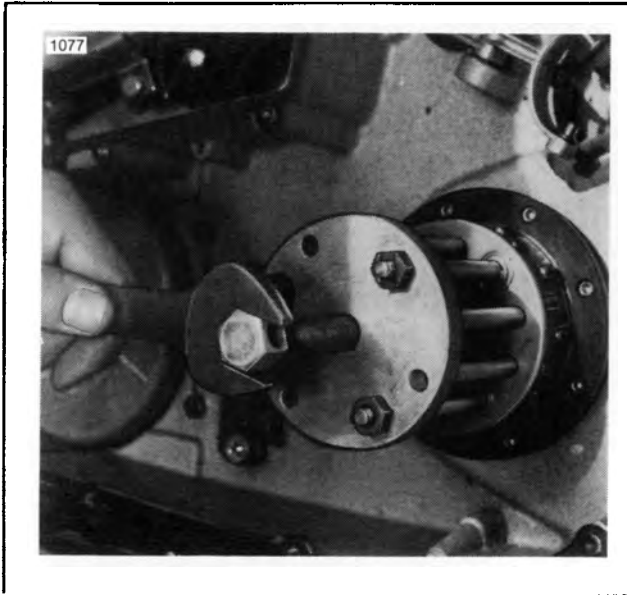

Figure 6-18. Clutch Hub Removal
9. See Figure 6-18. Remove clutch hub using CLUTCH HUB PULLER, Part No. HD-95960-41A. Slip PULLER PLATE onto hub studs and secure with spring adjusting nuts. Turn tool center bolt clockwise until hub breaks free from end of shaft. Remove the clutch hub key.